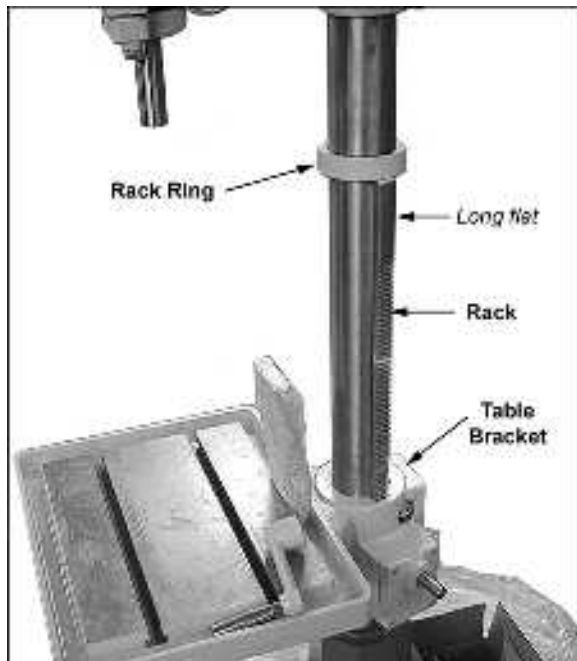

Figure 5
5. *Figure 5:* Place the rack against the column and slide it down as far as it will go into the slot in the table bracket. (Position the rack with the longer flat area toward the top and the short flat area toward the bottom.)
6. *Figure 5:* Slide the rack ring down onto the top of the rack and tighten the set screw on the rack ring.